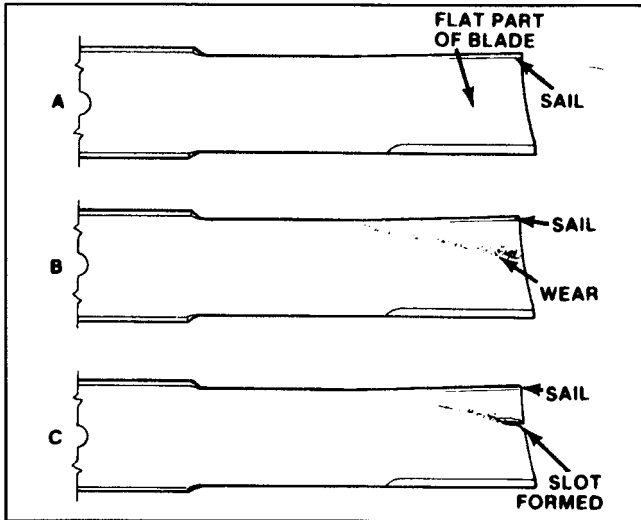

Figure 78
(Fig. 78)
2. Examine cutting ends of the blade carefully, especially where the flat and curved parts of the blade meet (Fig. 78-A). Since sand and abrasive material can wear away the metal that connects the flat and curved parts of the blade, check the blade before using the machine. If wear is noticed (Fig. 78-B), replace the blade: refer to Blade Removal and Installation, page 40.